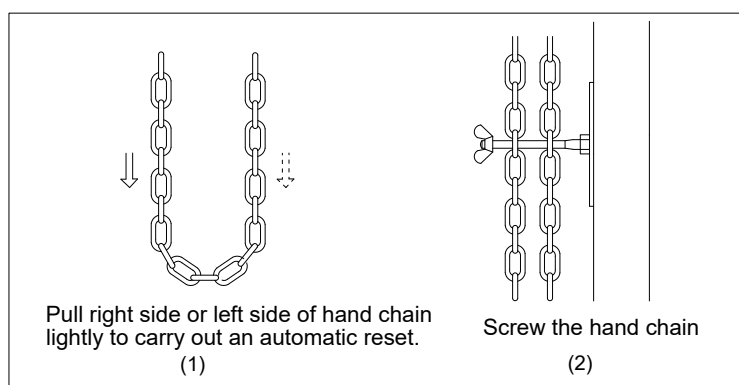

Fig.10
- If the close indicator light on the control box flashes and the operator does not work by operating the control box button, pull one side of hand chain lightly until a reset is carried out see Fig.10 (1), the close indicator light turns off, and now the control box can be used.
- It is important to ensure that the chain is not fitted twisted. If the chain is twisted, malfunctions may occur when the hand chain is used. It is essential to screw the hand chain firmly in place as shown in Fig.10 (2).